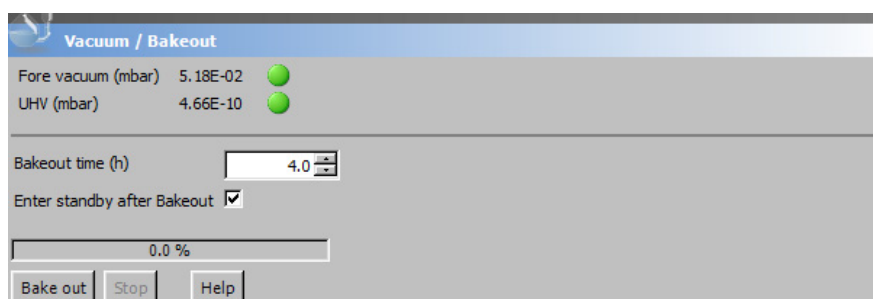

Figure 8-1. Vacuum / Bakeout window
2. In the Tasks panel of the Tune software window, click  to display the Vacuum / Bakeout window. See Figure 8-1.